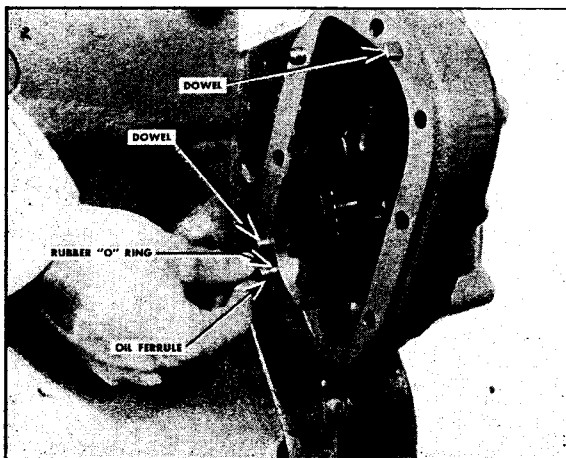

Fig. 12-55. Lubricating oil supply ferrule
1. Make sure the supercharger locating dowels are in the gear case. Close to the lower dowel is a lubricating oil ferrule or feed tube. The supercharger and water pump drive are lubricated under pressure through this connection. A counterbore is provided in the gear housing for a rubber "O" ring that fits over the oil supply ferrule. Fig. 12-55. Some of the older JBS engines may not have the proper size hole in the gear housing to take the $\frac{3}{8}$ inch tube; therefore, it will be necessary to drill and ream to $\frac{3}{8}$ diameter $\frac{1}{4}$ deep in housing so that the